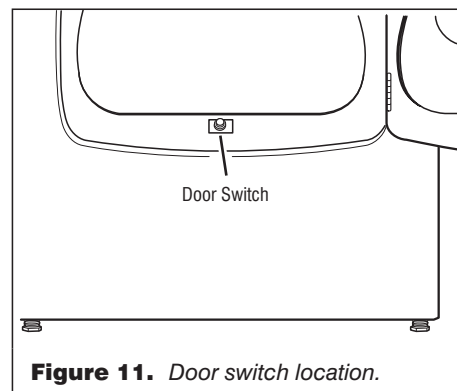

Figure 11. Door switch location.
- Check that the wires between the door switch and machine control electronics are connected. See figure 11 for switch location and see Removing the Front Panel/Drum Assembly, page 9.